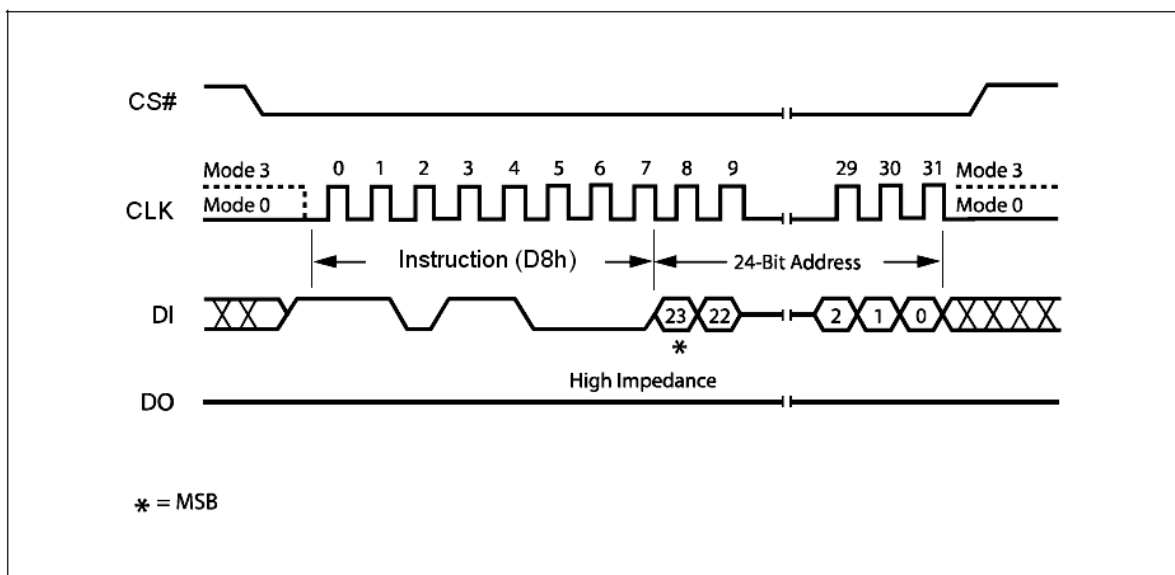

Figure 13 Block Erase Instruction Sequence Diagram
The instruction sequence is shown in Figure 13. Chip Select (CS#) must be driven High after the eighth bit of the last address byte has been latched in, otherwise the Block Erase (BE) instruction is not executed. As soon as Chip Select (CS#) is driven High, the self-timed Block Erase cycle (whose duration is t_{SE}) is initiated. While the Block Erase cycle is in progress, the Status Register may be read to check the value of the Write In Progress (WIP) bit. The Write In Progress (WIP) bit is 1 during the self-timed Block Erase cycle, and is 0 when it is completed. At some unspecified time before the cycle is completed, the Write Enable Latch (WEL) bit is reset.